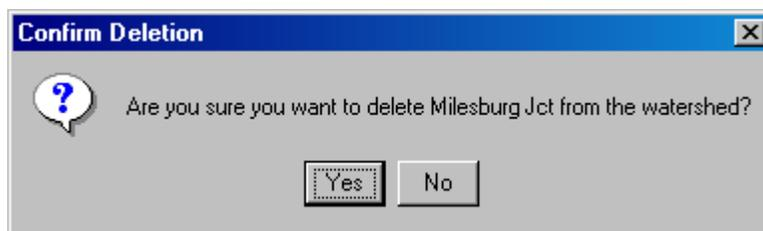

Figure 6.28 Confirm Deletion Dialog Box - Computation Point
3. Select **Delete Computation Point** from the shortcut menu. The **Confirm Deletion** dialog box will appear (Figure 6.28).